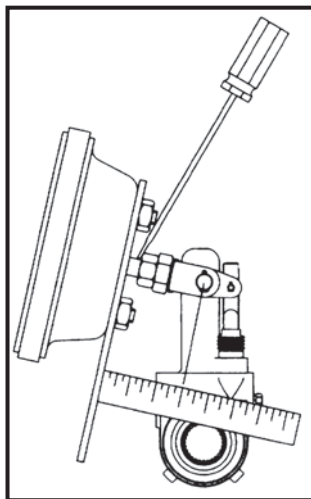

Figure 7 – Free Stroke
3. Free stroke is the amount of movement of the slack adjuster arm required to move the brake shoes against the drum. With the brakes released, measure from the face of the air chamber to the center of the large clevis pin (see Figure 7).